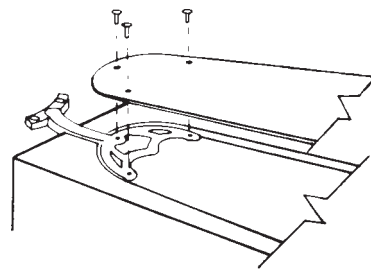

FIGURE 7
**A.** Attach wood blades to blade brackets using three screws for each blade. See Figure 7. If your blades have large holes you must first insert the rubber grommets into the holes. See Figure 7A.